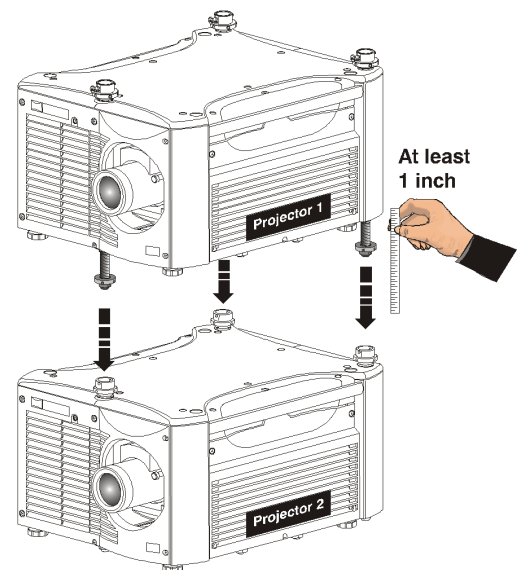

Figure 2-18 Extend 3 Stacking Legs (UPRIGHT STACK SHOWN)
Extend the stacking legs (3) by turning them so that at least 1 inch of thread is visible on each. This clearance accommodates the up-or-down movement for aligning the images from the stacked projectors. Ensure that you extend all 3 legs equally (see *Figure 2-18*) so they are level.
IMPORTANT! *Ensure the stacking legs are extended at least 1 inch and are slightly loosened. Refer to Figure 2-18.*